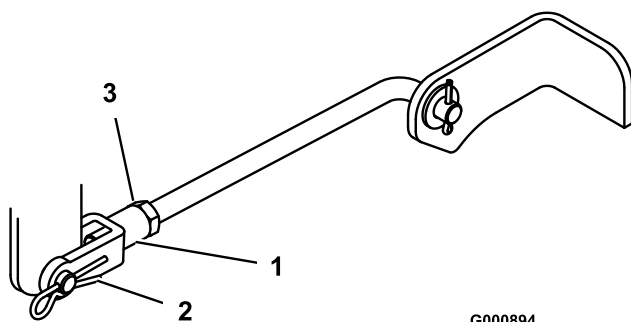

Figure 45
11. To adjust the front-to-rear blade slope, remove the hairpin cotter from the front trunion yokes and loosen the jam nuts (Figure 45).
12. Rotate the yokes on the rods to change the adjustment (Figure 45). To raise the front of the mower, tighten the yokes (shorten the rods). To lower the front of the mower, loosen the yokes (lengthen the rods).